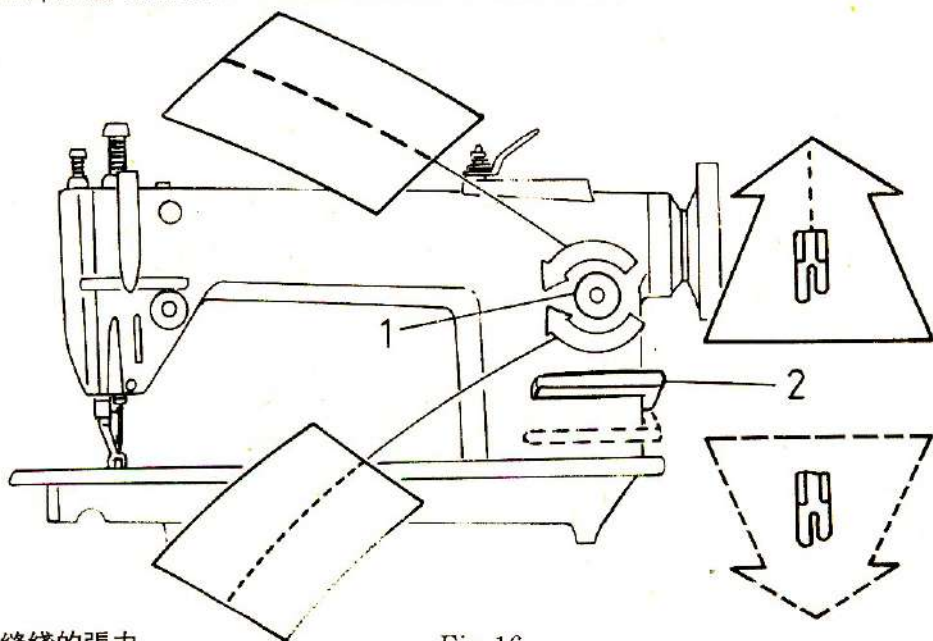

Fig.16
8. Stitch Length Adjustment and Reverse Stitching Control (fig 16)